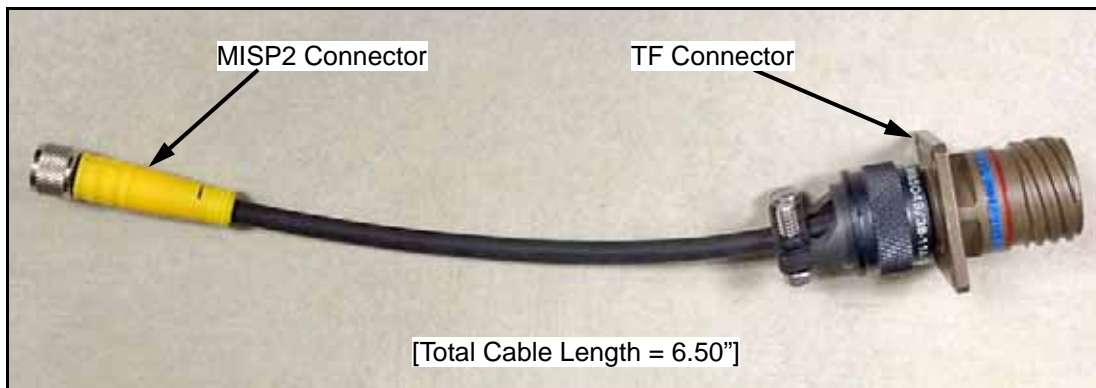

Figure 5: TF-MISP2 Converter Cable
If an existing moisture measurement system uses a TF-Series moisture probe, the cable for that probe may be adapted for use with an MISP2 probe. To retrofit the existing system, refer to *Figure 5* below and complete the following steps:
3. Using GE *adapter cable 704-1352*, shown in *Figure 5* above, connect one end of the cable to the MISP2 probe and connect the other end to the existing TF-Series cable connector.